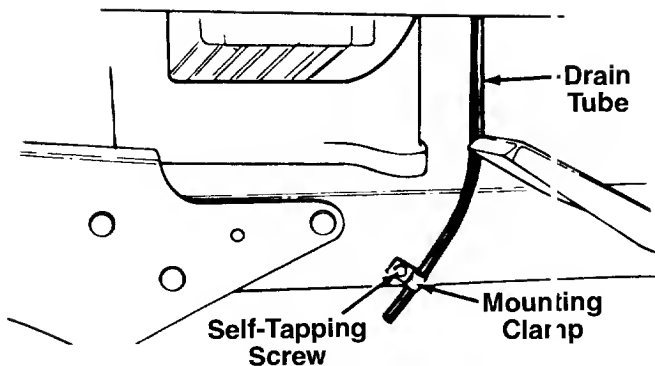

FIGURE 13.
5. Route the battery drain tube over to the left side of the tractor. Loosen the self-tapping screw which secures the mounting clamp. See figure 13. Slip the end of the drain tube into the mounting clamp. Tighten the self-tapping screw to secure the clamp. Do not overtighten which could collapse the drain tube.